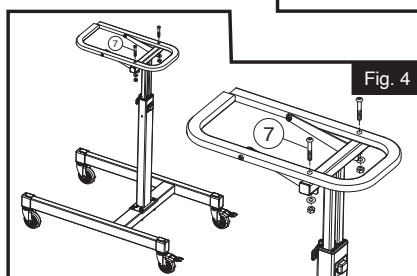

Fig. 4
6. Install the tool tray frame onto the support frame assembly as shown. Fasten using two M6 Screws (7), M6 washers and M6 lock nuts. (Fig. 4)